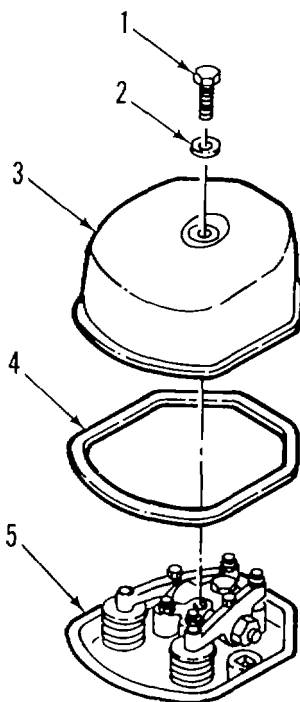

Figure 2-42. Cylinder Head Cover
a. REMOVE. (Figure 2-42)
- (1) Remove bolt (1) and washer (2).
- (2) Remove cylinder head cover (3) and gasket (4).